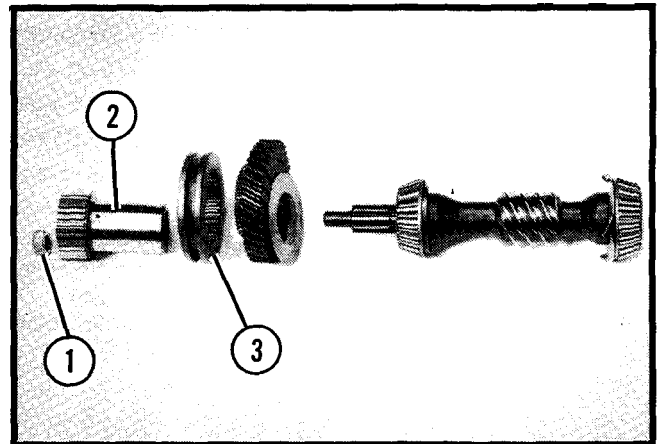

Figure 16.
10. Remove the main shaft retaining nut and pull the main shaft and shift collar from the differential worm shaft. See Figure 16.